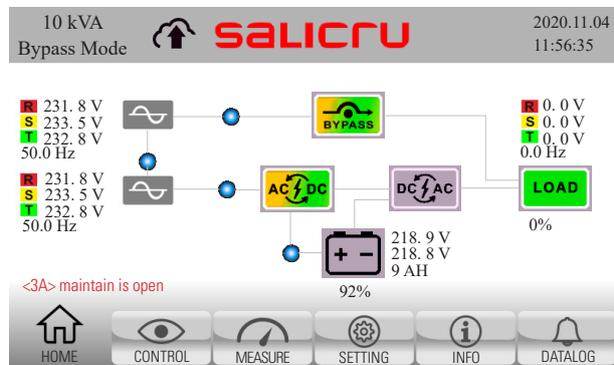

Fig. 36. Main screen of the control panel with manual bypass contact open warning.
4. The unit reports the current status via the main screen with the warning <3A>"maintain is open". See Fig. 36.
7. Check that the UPS supplies voltage simultaneously to the output via the maintenance bypass switch and the static bypass: check that the UPS is in bypass mode and the alarm <3A> shows "maintain is open", and the synoptic on the main screen of the control panel is as shown in Fig. 36.